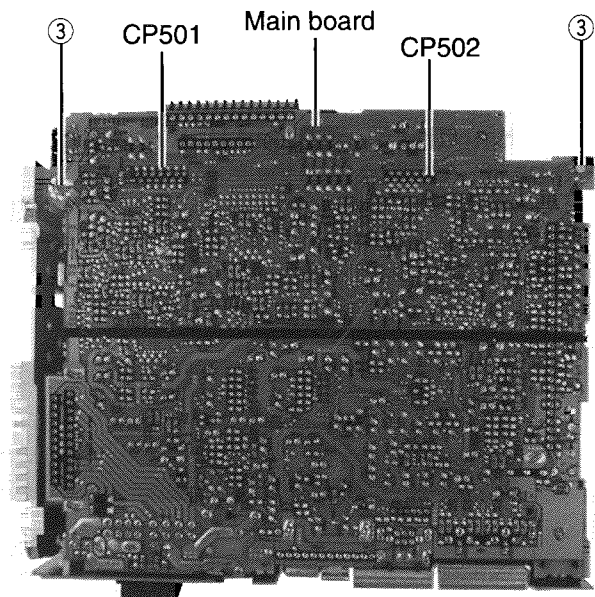

Fig.7
■ **Removing the main board assembly** (See Fig.7, 8)
1. Remove the two screws ③ retaining the main board.
3. Remove the three screws ④ retaining the rear bracket.